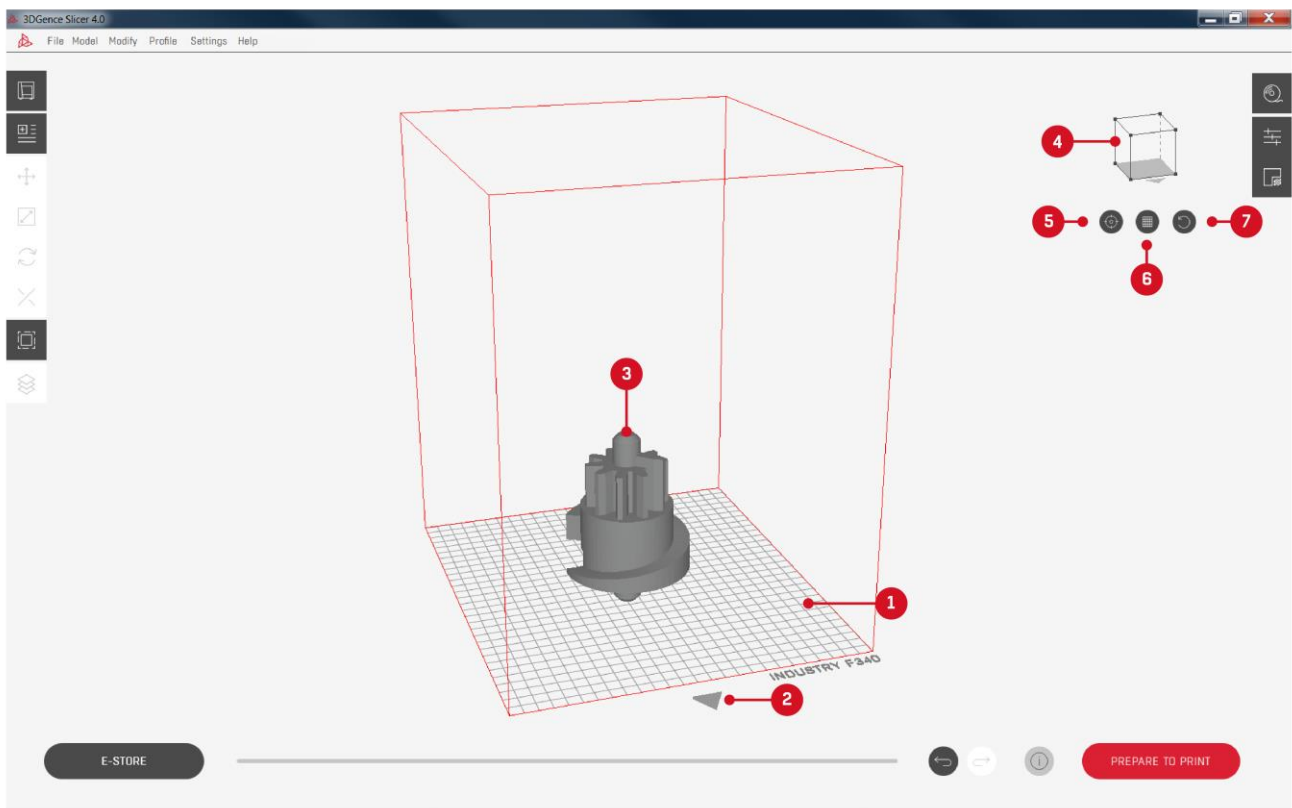

Fig. 21 Virtual heatbed
1. The virtual heatbed (Fig. 21) – is a graphic representation of the machine working area, where the models to be printed are set. The software will not allow printing of models which partially protrude outside of the working area. The models which do not fit the heatbed are highlighted red. The size of the area changes dynamically when the printer is selected. Part of the working area is in most cases reserved to the print, e.g. of a raft which improves the print adhesion to the heatbed. It is recommended to print within the distance of at least 5 mm from the working field edge.